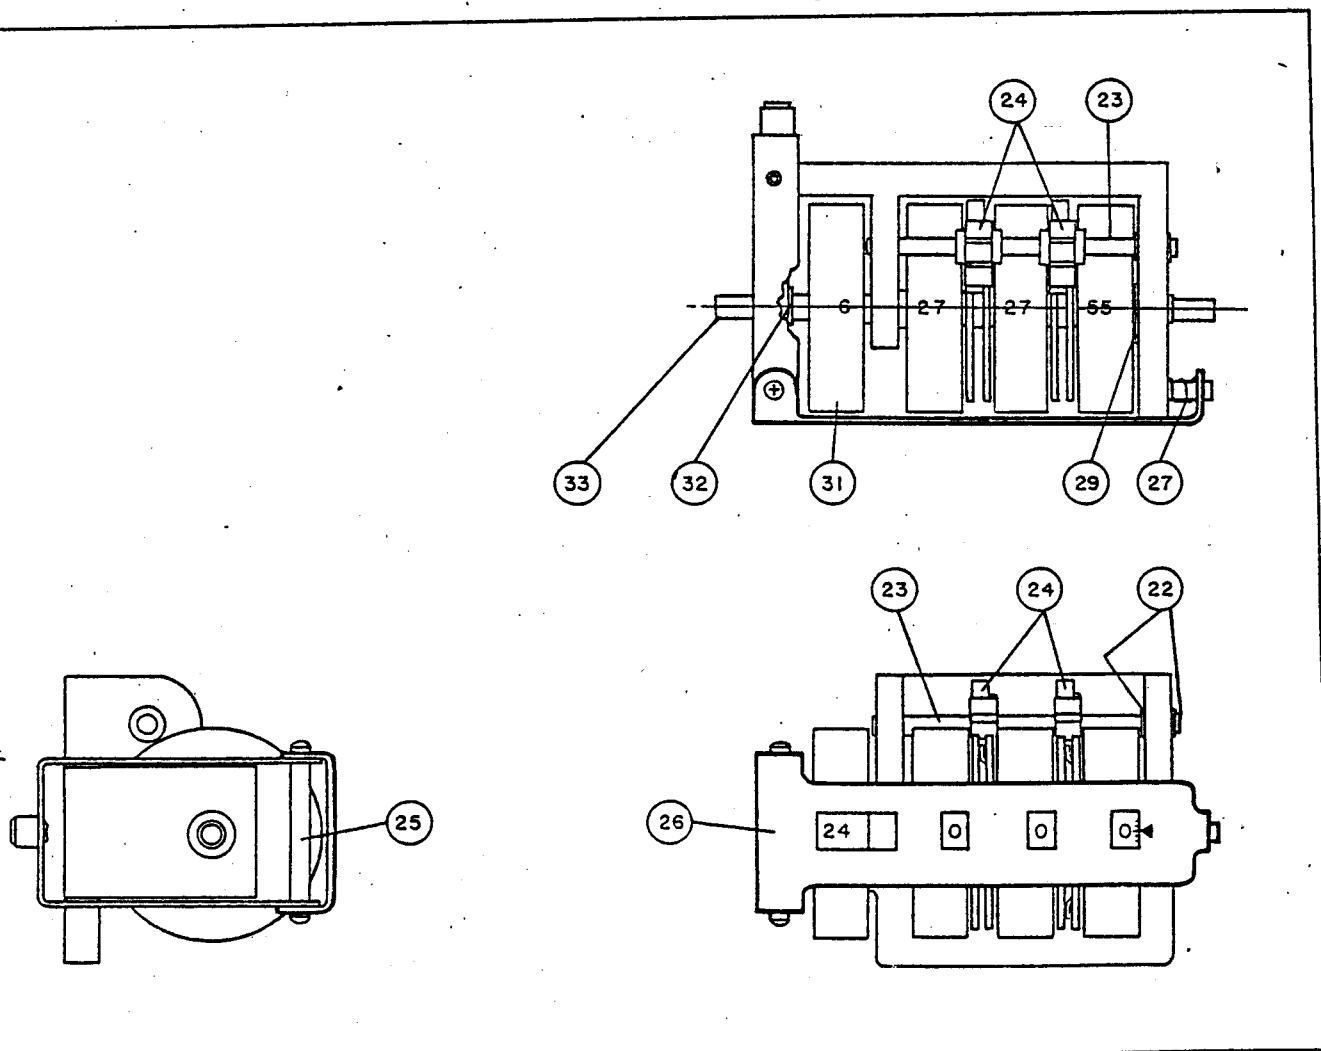
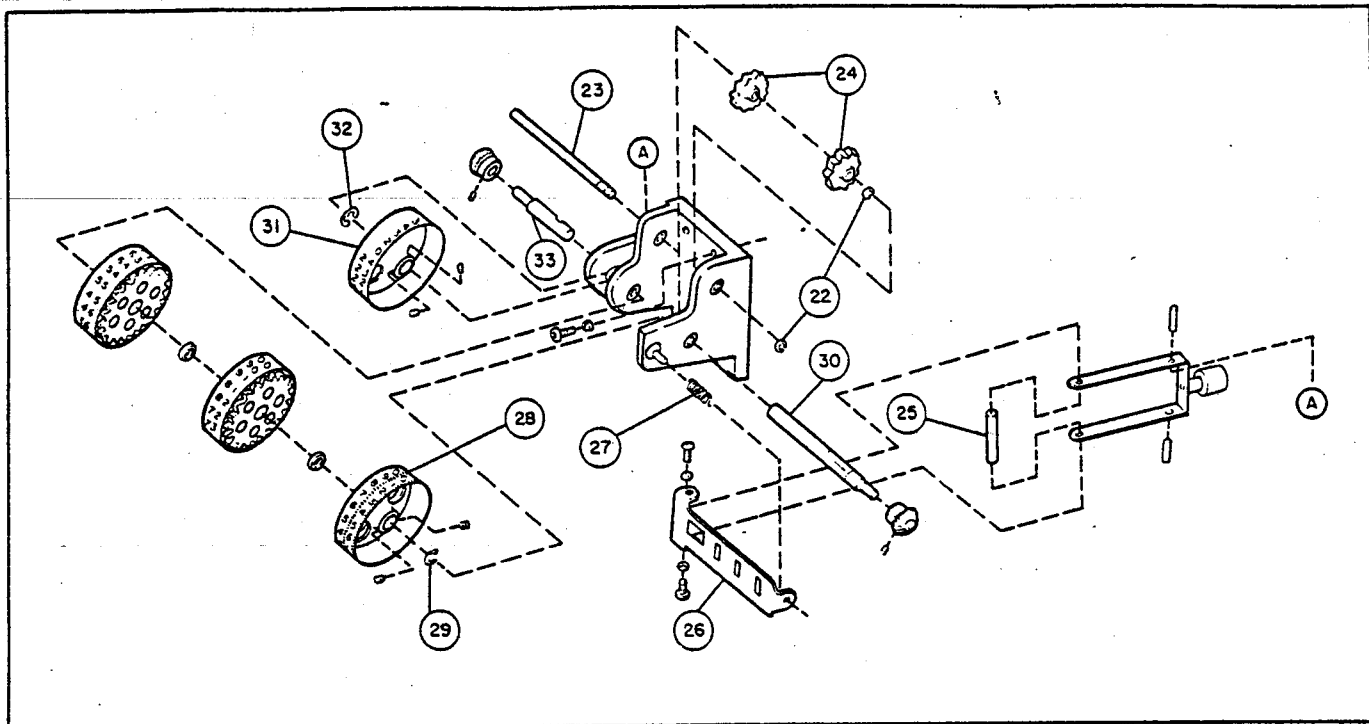

Figure 3-10. MEGACYCLES Frequency Indicator; Top, Front, and Side Views
Figure 3-11. MEGACYCLES Frequency Indicator, Exploded View
**3-14. DISASSEMBLY OF MEGACYCLES FREQUENCY INDICATOR.** Refer to figures 3-10 and 3-11.
- b. Remove retaining rings (item 22).
- c. Remove shaft and counter gears (items 23 and 24).
- d. Remove screws and washers securing mask actuating pin (item 25).
- e. Remove sliding mask and spring (items 26 and 27).
- f. Loosen setscrews of the fourth counter wheel (item 28).
- g. Remove retaining ring (item 29).
- h. Remove shaft (item 30), allowing the three right-hand counter wheels and associated hardware to be removed. (See figure 3-11.)
- i. Loosen setscrews of left-hand counter wheel (item 31) and remove retaining ring (item 32).
- j. Remove shaft (item 33).
- k. Remove left-hand counter wheel (item 31) and associated hardware.
**3-16. REASSEMBLY OF MEGACYCLES FREQUENCY INDICATOR.** Refer to figures 3-10, 3-11, and 3-12.
- a. Install counter wheel (item 31) in left-hand position and slide shaft (item 33) into position.
- b. Install retaining ring (item 32) on shaft (item 33) and orient setscrews of left-hand counter wheel (item 31) with the flat edges of shaft (item 33).
- c. Adjust position of counter wheel (item 31) for minimum end play of shaft (item 33) and tighten setscrews. Counter wheel (item 31) should now rotate freely.
- l. Install the three right-hand counter wheels and associated hardware and slide shaft (item 30) into position.
- m. Install retaining ring (item 29) on shaft (item 30) and orient setscrews of right-hand counter wheel (item 28) with the flat edges of shaft (item 30).
- n. Adjust position of right-hand counter wheel (item 28) for minimum end play of shaft (item 30) and tighten setscrews. The two middle counter wheels should now rotate freely and shaft (item 30) should rotate freely in the end bearings.
- o. Install sliding mask (item 26) and spring (item 27) with pin (item 25). Install screws and washers of pin (item 25). Sliding mask (item 26) should slide horizontally without seizing or binding after installation.
- p. With the three right-hand counter wheels set for a reading of 00-00-00 from the front and 27-27-55 from the top, install counter gears (item 24) and shaft (item 23) as illustrated in figures 3-10 and 3-11.
- q. Secure shaft (item 24) with retaining rings (item 22) as illustrated in figure 3-10. Make certain the